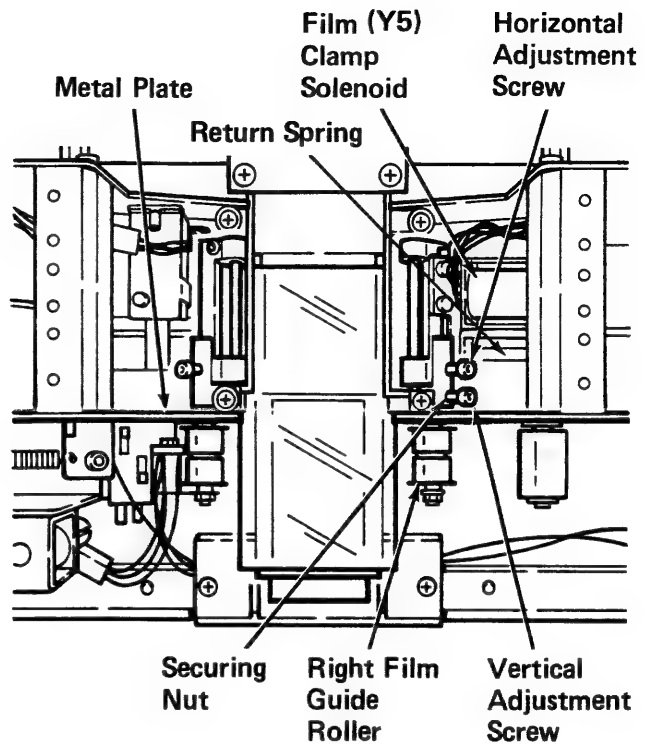

Figure 3-2B
7. Repeat Step 6 but for the Right Film Guide Roller (Figure 3-2B).
9. Loosen the Adjustment Nut and turn the Adjustment Screw (Figure 3-2B) clockwise to lower the Right Film Guide Roller or counterclockwise to raise the Right Film Guide Roller.
Move the Return Spring of the Film Clamp Solenoid Y5 (Figure 3-2B) to a hole further to the right for greater return tension.